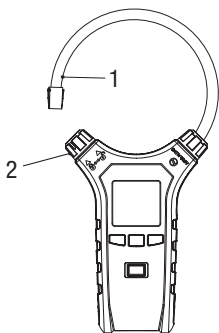

Figure 3
2. Unlock the clamp according to Figure 3